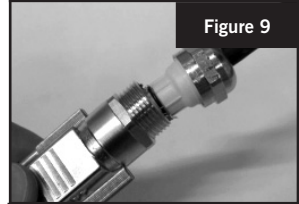

Figure 9
15. Snip off excess shield flush with the bottom of the adapter. (See figure 9)